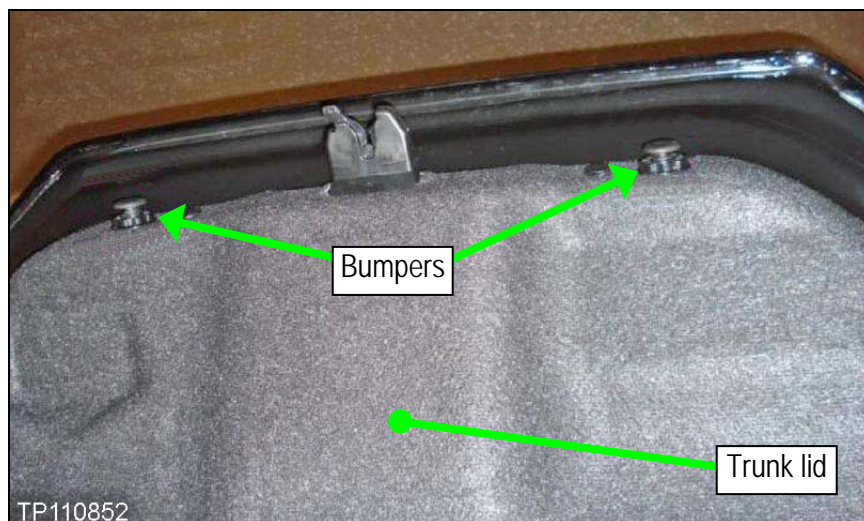

Figure 37
- a. Remove both bumpers, and then extend the rubbers all the way out (see Figure 37 and 38).